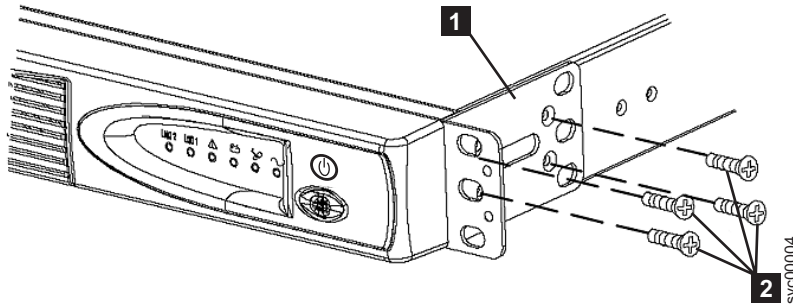

Figure 15. Installing the support rails for a 2145 UPS-1U into the rack
3. Attach the long side of a mounting bracket **1** to each side of the 2145 UPS-1U using four M3 × 6 screws **2** for each bracket, as shown in Figure 15 on page 42.